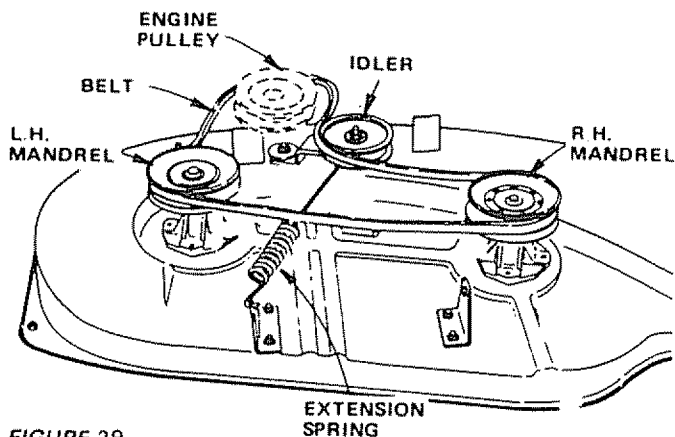

FIGURE 29
- Roll belt off mower drive pulley (Fig 29)
- Remove belt from mower pulleys and idler pulley (Fig.29)